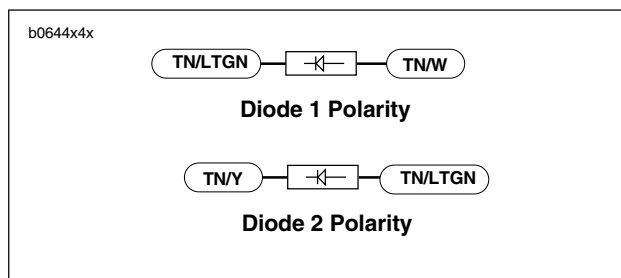

Figure 7-10. Diode Polarity
1. Check diode polarity as shown in Figure 7-10.